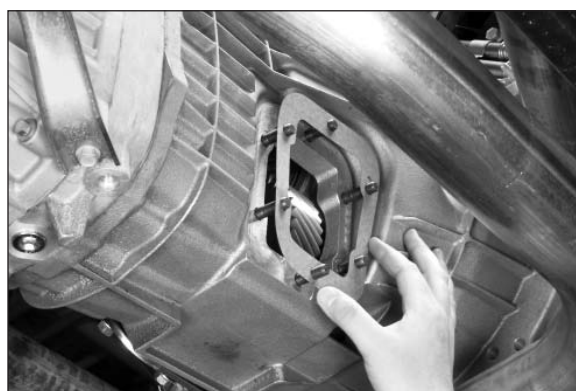

Fig. 5
6. Place the correct number of gaskets over studs (Fig. 5). Do not use Permatex between gaskets because you may want to add or subtract gaskets to obtain proper backlash.